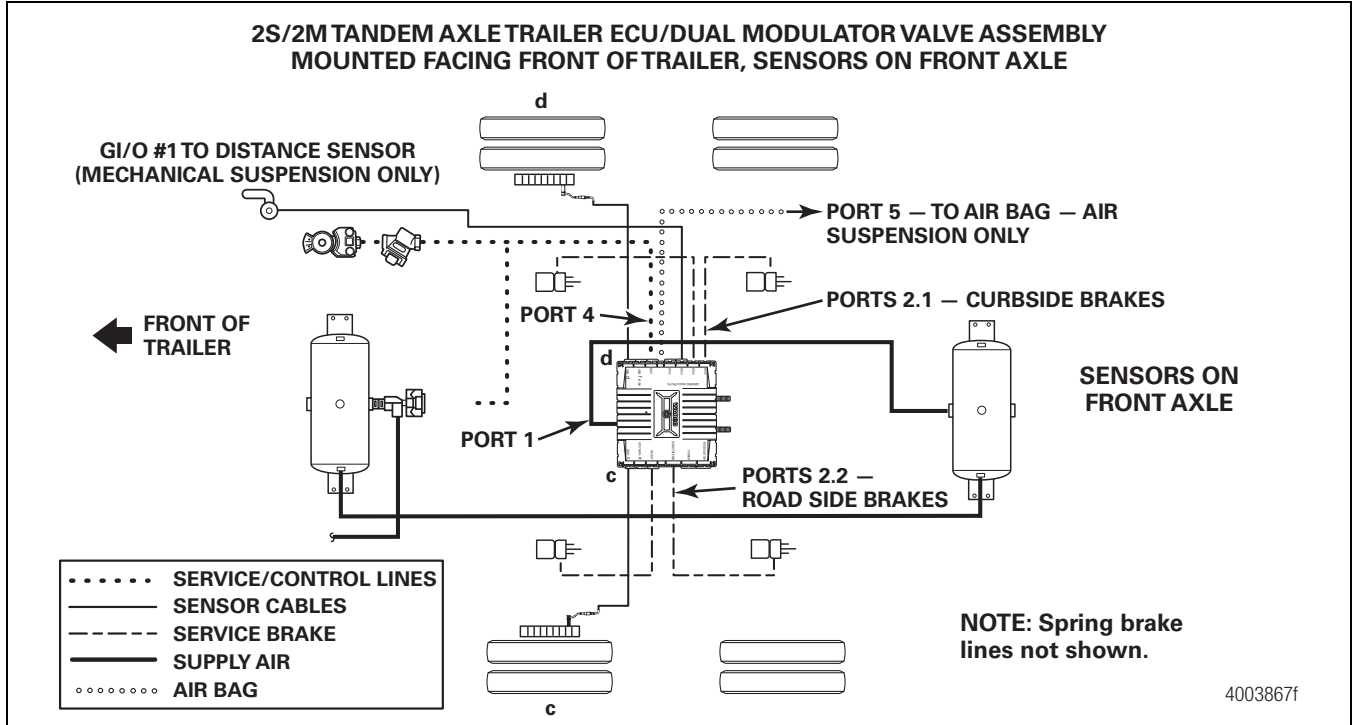
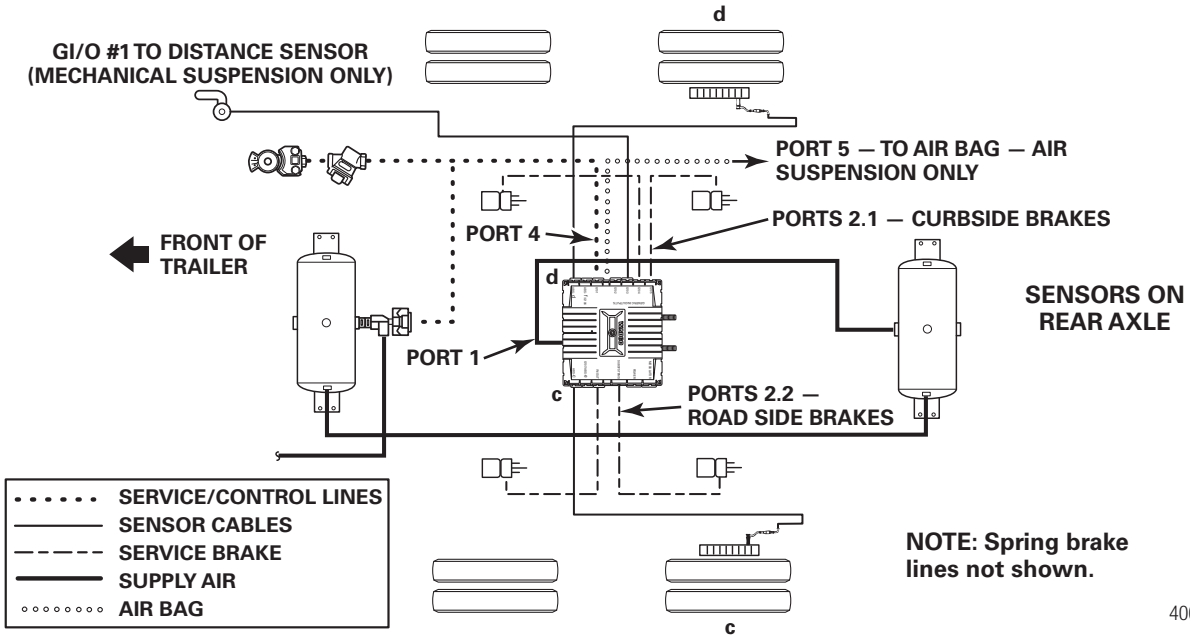
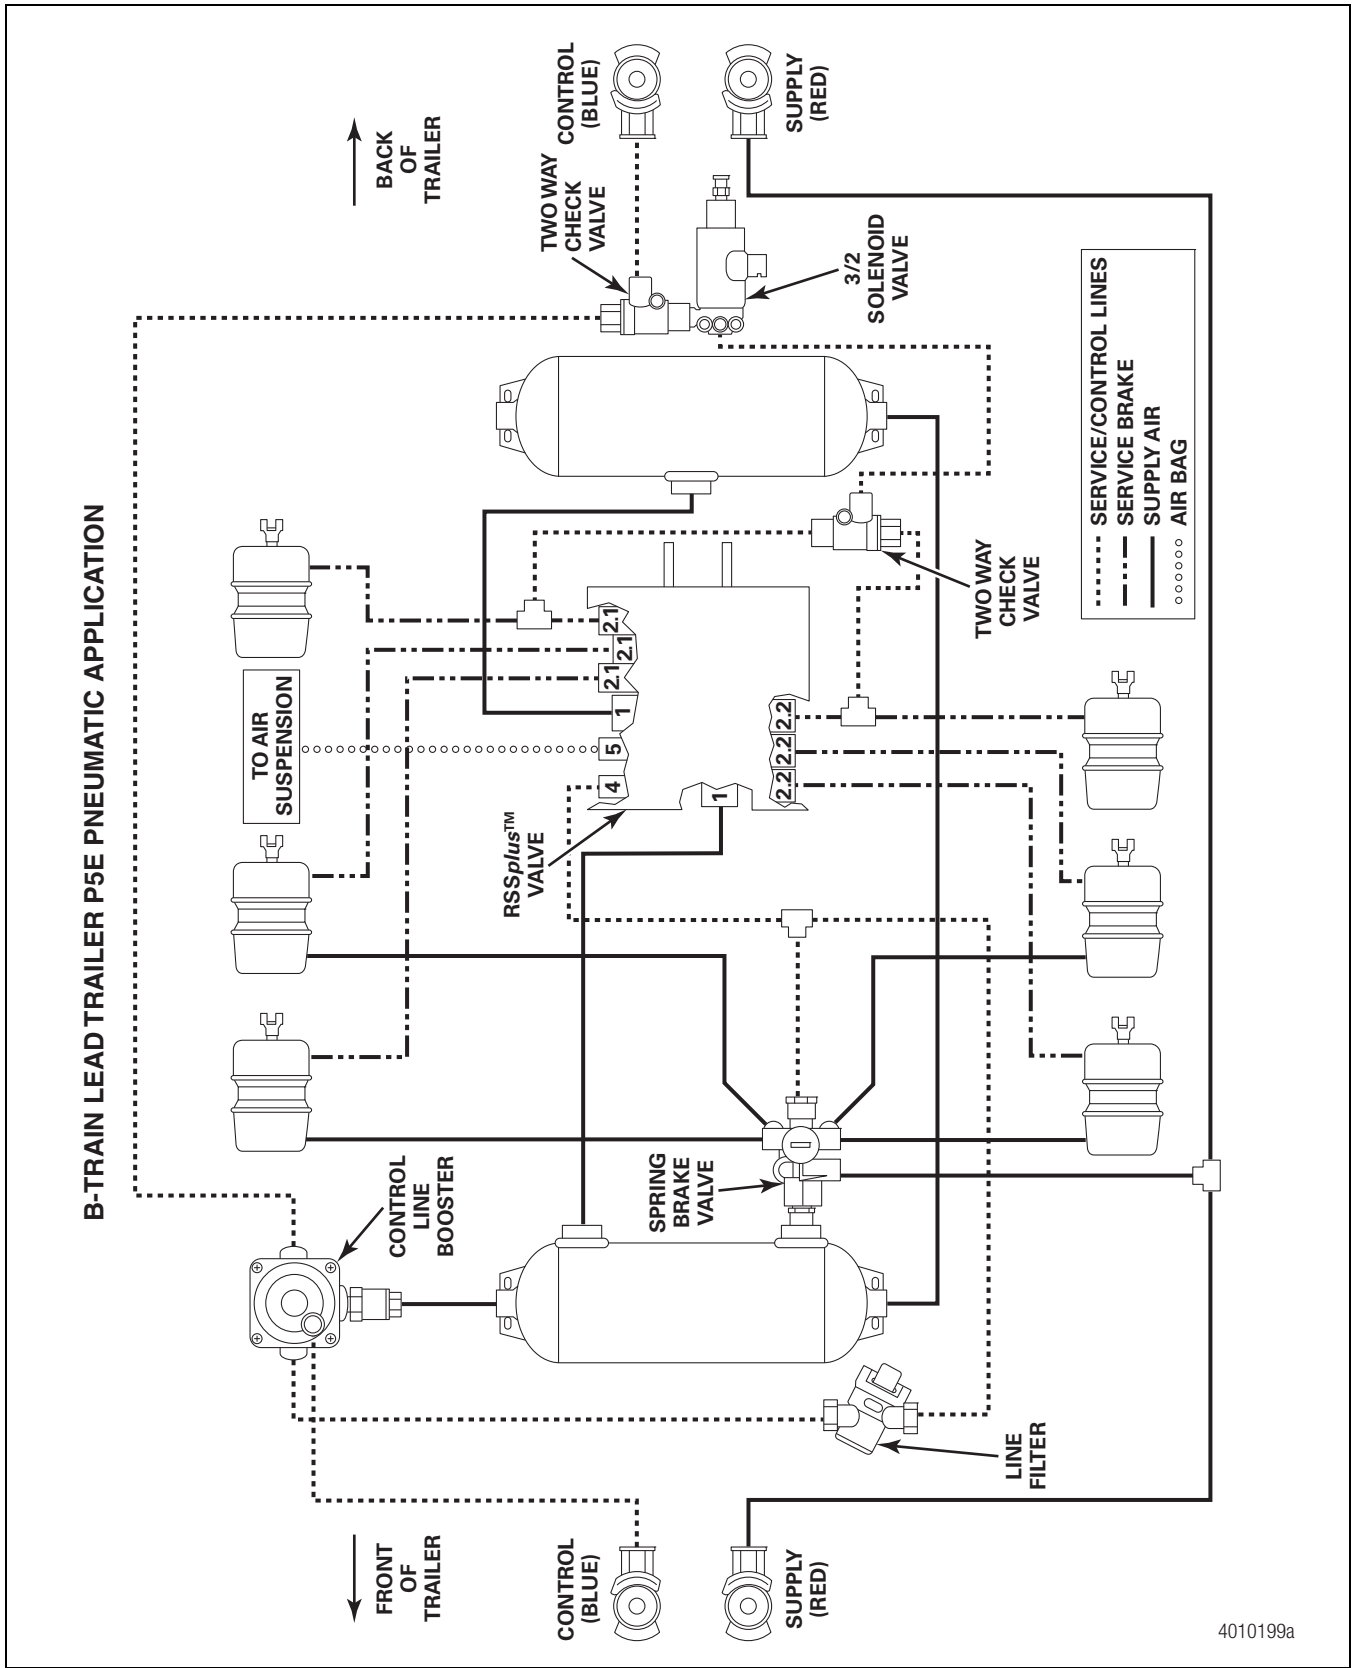

Figure 16
Figure 18
Figure 24
- 2S/2M (Figure 16 and Figure 18)
Typical trailer RSS layouts are illustrated in Figure 16 through Figure 24.
The Roll Stability System can be configured on B-Train trailers through the use of the patented WABCO P5E pneumatic application. The P5E system ensures that uniform braking occurs on both lead and pup trailers at the same time, similar to standard braking. The RSS_{plus}™ valve and the P5E are required on the lead trailer of a B-Train, and it is required that an RSS_{plus}™ valve be installed on the pup trailer as well. Additional valves are required as illustrated in Figure 24. The P5E kit for RSS_{plus}™ is part number 400 850 057 2.
The ATC - Generic I/O Cable, part number 449 443 030 0, is connected to the GIO 3 port on the RSS+ ECU and on the electronics connector of the 3/2 Solenoid Valve, part number 472 170 997 0. The air system plumbing diagram that integrates the 3/2 Solenoid Valve and Two Way Check Valve, part number 934 099 025 0, is illustrated in Figure 24. To maximize air system timing, both Two Way Check Valves used in the P5E application should have the two inlet ports oriented so that they are perpendicular to the ground. The inlet port on the integrated valve that is fed from the Control Line Booster should be oriented upward.